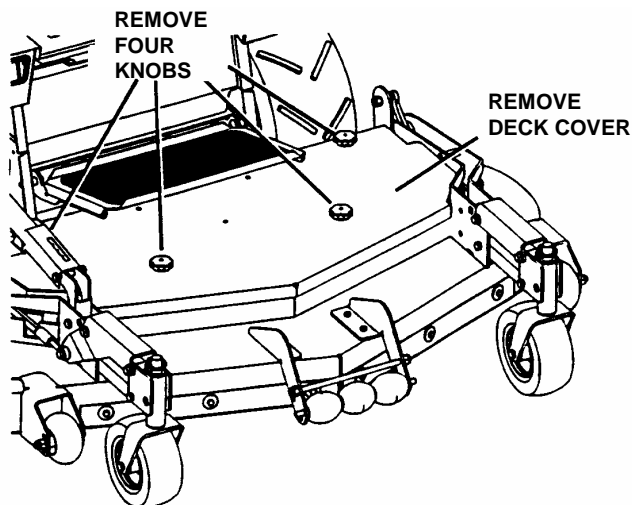

FIGURE 3.3
- Remove knobs that secure the deck cover. See Figure 3.3.